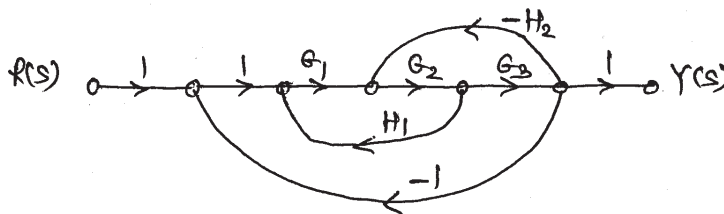

Figure No.2
b) Determine the transfer function $Y(s)/R(s)$ using Mason's gain formula for the system shown in figure No.2 [8]